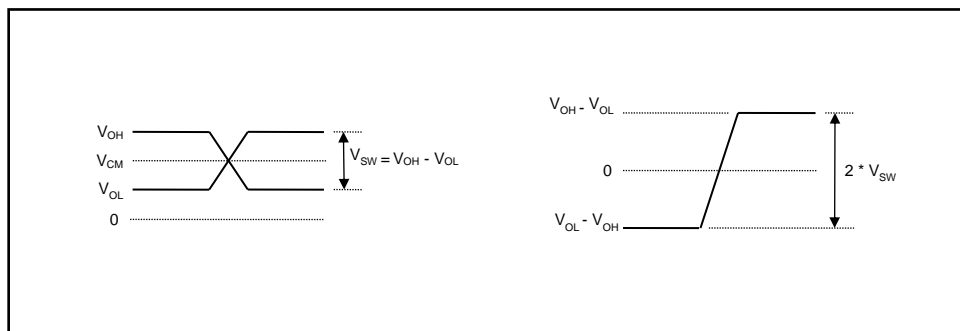

Figure 42. Differential Output Voltage Levels
**Output differential swing is calculated as $V_{SW} = V_{OH} - V_{OL}$. It should not be confused with $V_{SW} = 2 * (V_{OH} - V_{OL})$ used in some datasheets. Please refer to Figure 42.